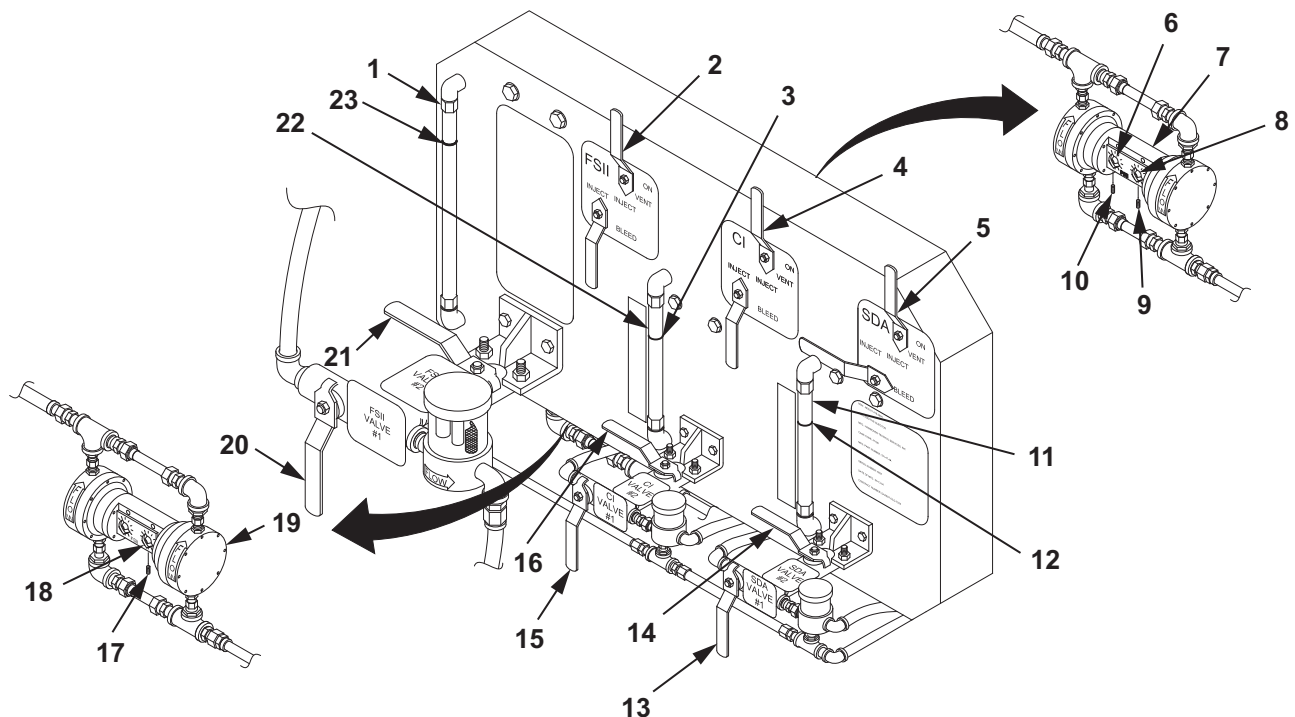

Figure 26. Calibrating the FSII Fuel Additive Injector.
- a. Open the FSII VALVE #2 (Figure 26, Item 21).
- b. Position the FSII vent valve (Figure 26, Item 2) to the ON position to fill the FSII calibration gauge (Figure 26, Item 1).
- c. Position the FSII vent valve (Figure 26, Item 2) to the INJECT position when the FSII calibration gauge (Figure 26, Item 1) is filled to the 90 oz mark.
- d. Move calibration gauge o-ring (Figure 26, Item 23) to the additive level in the FSII calibration gauge (Figure 26, Item 1).
- f. Position FSII VALVE #1 (Figure 26, Item 20) to the off position.
- g. Position FSII vent valve (Figure 26, Item 2) to the ON position.
- i. After a small amount of fuel product is pumped, approximately 100–200 gallons, record the amount of FSII additive drawn from the FSII calibration gauge (Figure 26, Item 1).
- k. Position FSII vent valve (Figure 26, Item 2) to the INJECT position.
- l. Close FSII VALVE #2 (Figure 26, Item 21).
- m. Position the FSII VALVE #1 (Figure 26, Item 20) to the on position.
- 1) EXAMPLE: (US)
- o. Increase or decrease delivered additive to fuel ratio by loosening the set screws (Figure 26, Item 6) and adjusting the stroke adjustment knobs (Figure 26, Item 10) on the FSII additive injector (Figure 26, Item 9). Repeat calibration steps until desired additive to fuel ratio is reached.
- p. Lock the adjustments securely with the set screws (Figure 26, Item 17) located below each of the stroke adjustment knobs (Figure 26, Item 18).
- a. Open the CI VALVE #2 (Figure 26, Item 16).
- b. Position the CI vent valve (Figure 26, Item 4) to the ON position to fill the CI calibration gauge (Figure 26, Item 22).
- c. Position the CI vent valve (Figure 26, Item 4) to the INJECT position when the CI calibration gauge (Figure 26, Item 22) is filled to the 7 oz mark.
- d. Move calibration gauge o-ring (Figure 26, Item 3) to the additive level in the CI calibration gauge (Figure 26, Item 22).
- f. Position CI VALVE #1 (Figure 26, Item 15) to the off position.
- g. Position CI vent valve (Figure 26, Item 14) to the ON position.
- i. After a small amount of fuel product is pumped, approximately 100–200 gallons, record the amount of CI additive drawn from the CI additive calibration gauge (Figure 26, Item 22).
- k. Position CI vent valve (Figure 26, Item 4) to the INJECT position.
- l. Close CI VALVE #2 (Figure 26, Item 16).
- m. Position CI VALVE #1 (Figure 26, Item 15) to the on position.